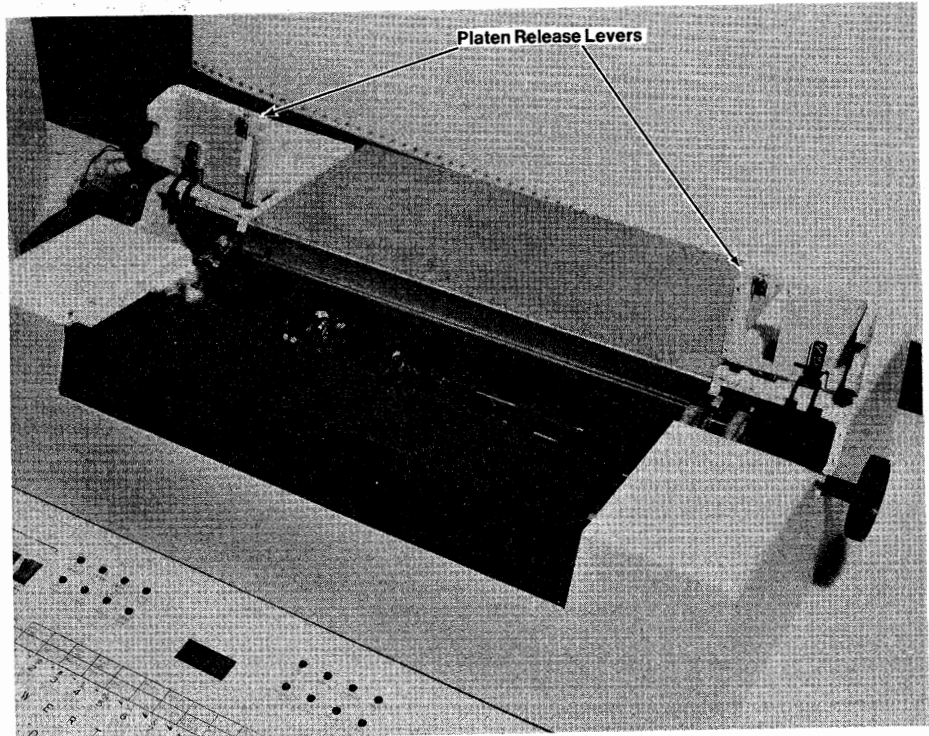

Figure 4-11. Removing and Installing the Platen
- 4 Open the printer cover as shown in Figure 4-2; then, open the platen extension covers shown in Figure 4-11.
- 5 Press down on both platen release levers shown in Figure 4-11.